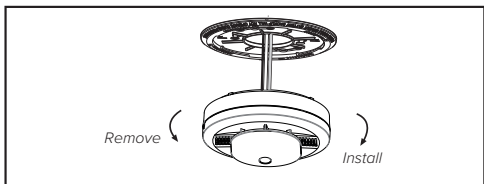

Figure 9-F
- Install the alarm fully on the mounting bracket by rotating the alarm in a clockwise direction. (see Figure 9-C for orientation)